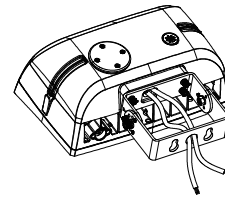

Figure 2-3
- Assemble the two Knuckle bracket parts and fasten them with the Locking Bolts(Figure 2-3).
- Assemble the two Trunnion bracket parts and fasten them with the Locking Bolts(Figure 2-3).